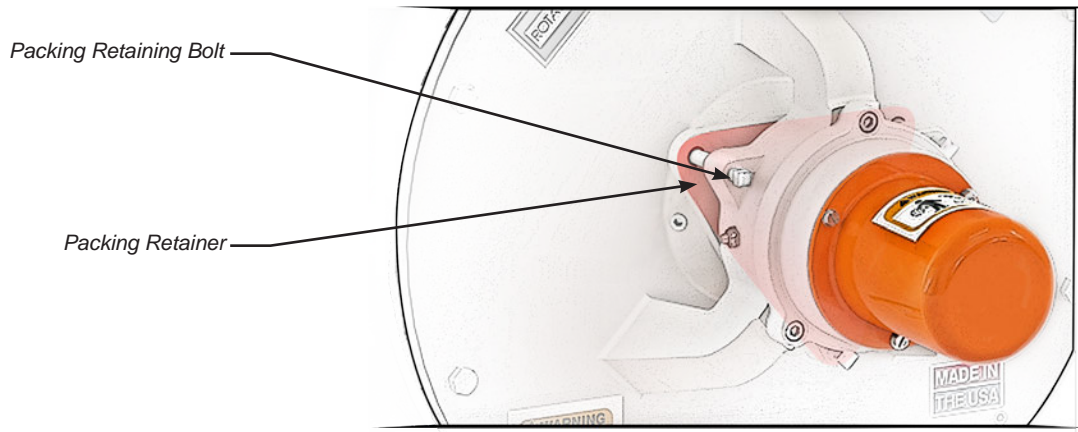

FIGURE 6
- Use an open-end wrench to alternately tighten the packing retainer bolts (3) approximately 1/8 turn at a time as shown below (Figure 6).